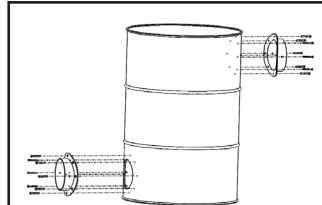

Figure 6
13. Remove the top barrel. Using either a hacksaw or a sabre saw cut along the markings. Trace then cut a flue collar inner perimeter on the opposite end and side of the barrel. (Figure 6) For both openings on this barrel, fasten flue collars to the barrel with the same procedure as step 9.